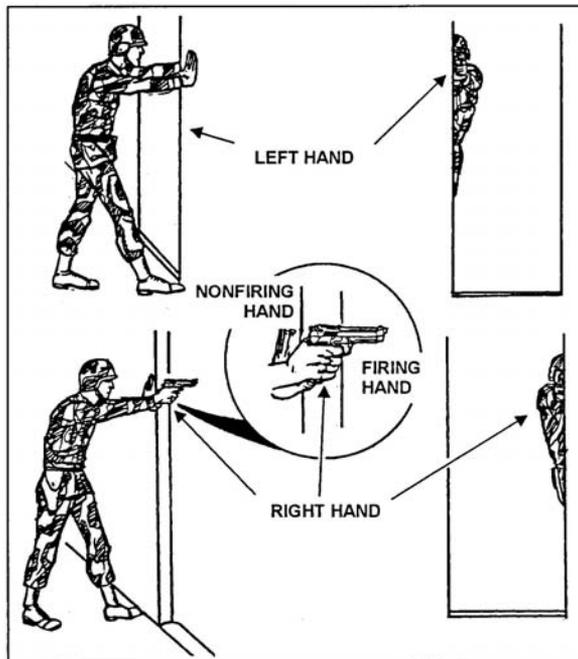

Figure 071-004-0006-7. Standing-with-support position
c. Kneeling (figure 071-004-0006-8). To assume this position—
(1) Use available cover for support such as a low wall, rocks, or a vehicle that you can fire over.
(2) Place your firing knee on the ground. Put your left knee down to fire left handed, or your right knee down to fire right handed.
(3) Bend your other knee. Place the foot on your nonfiring side flat on the ground, pointing toward the target. Extend your arms over available cover, and use it for support.
(4) Lock the wrist and elbow of your firing arm.
(5) Wrap your nonfiring hand around your firing fist or wrist to support your firing arm.